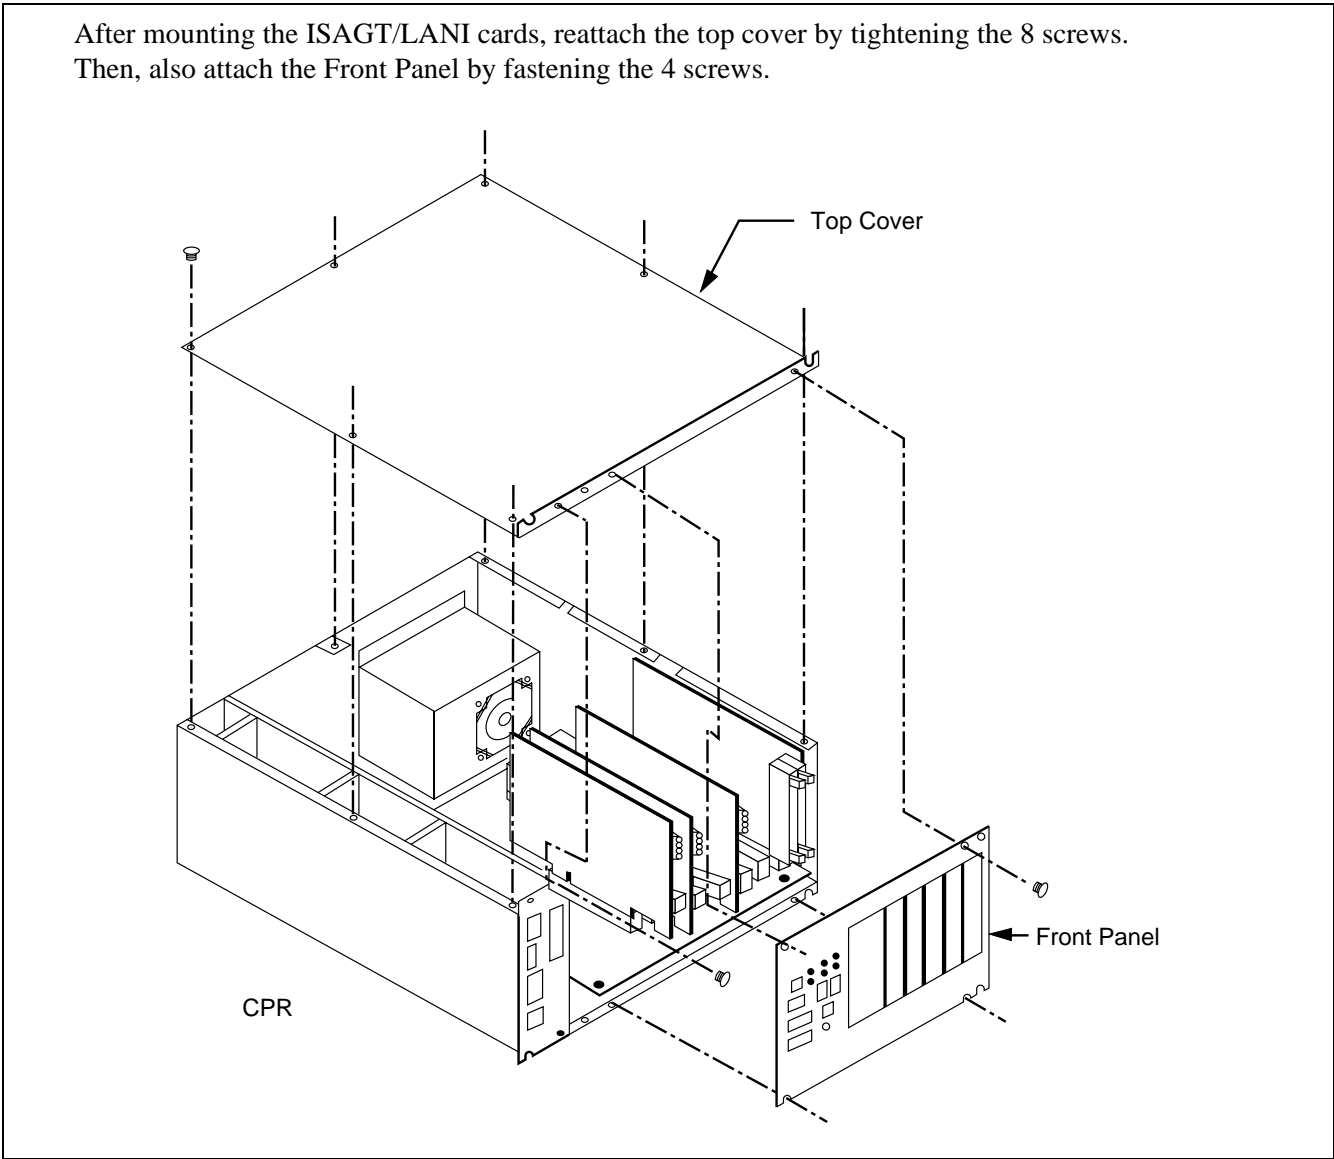

Figure 009-6 Reattachment of CPR Top Cover and Front Panel
- 3. Attach the top cover and front panel again by fastening the removed screws. (Refer to Figure 009-6.)